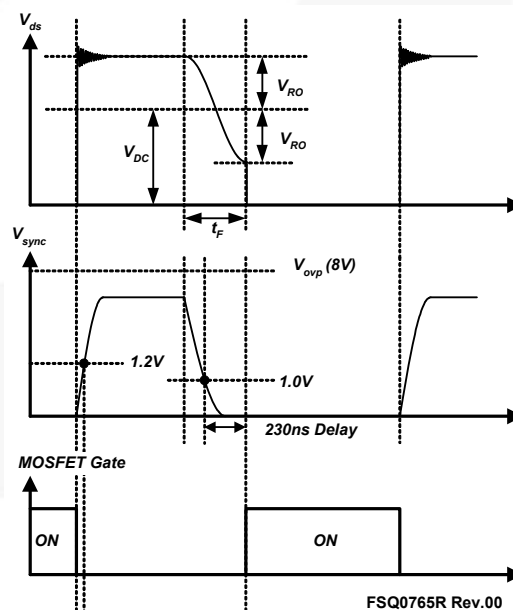

Figure 24. Quasi-Resonant Switching Waveforms
3. Synchronization: The FSQ-series employs a quasi-resonant switching technique to minimize the switching noise and loss. The basic waveforms of the quasi-resonant converter are shown in Figure 24. To minimize the MOSFET's switching loss, the MOSFET should be turned on when the drain voltage reaches its minimum value, which is indirectly detected by monitoring the V_{CC} winding voltage, as shown in Figure 24.